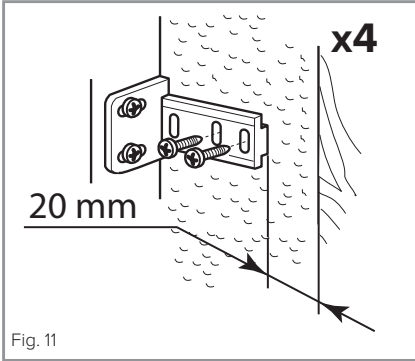

Fig. 11
- Locate the slider in the bracket and fix the slider to the fascia door 20 to 22mm from the edge of the fascia as shown in figure 11, ensuring that the slider is positioned centrally and horizontally within the bracket. Tighten securely by hand.